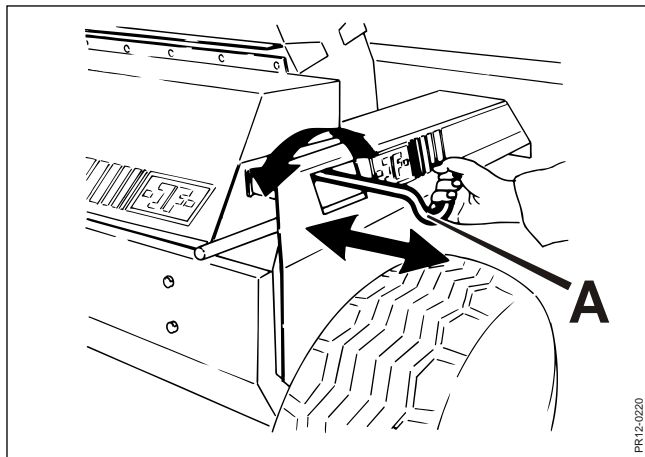

Fig. 4-26
- Fig. 4-26** 3. Adjust the grindstone so that there is 2-3 mm clearance between the stone and the blades by turning the handle **A**.